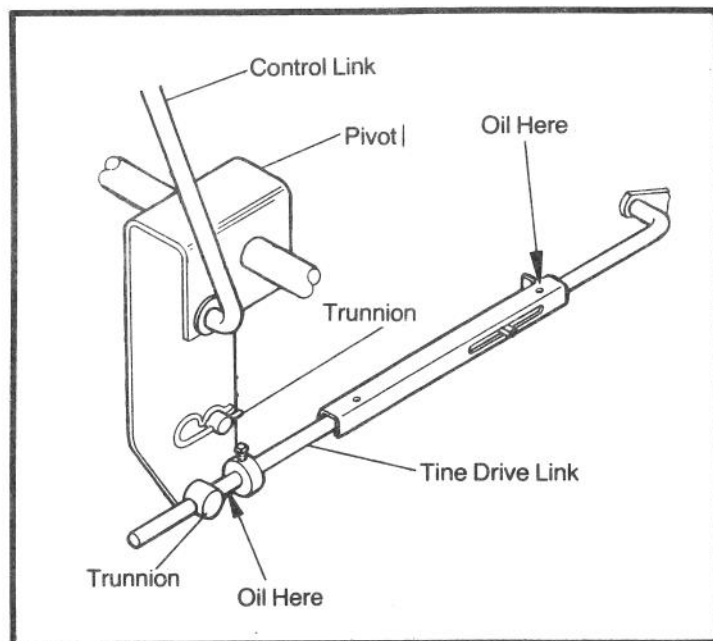

FIGURE 15
3. The following points should be lubricated with engine oil every eight hours (see Fig. 15). Before oiling attempt to clean off area to be lubricated.
- D. Tine drive link (Fig. 15).